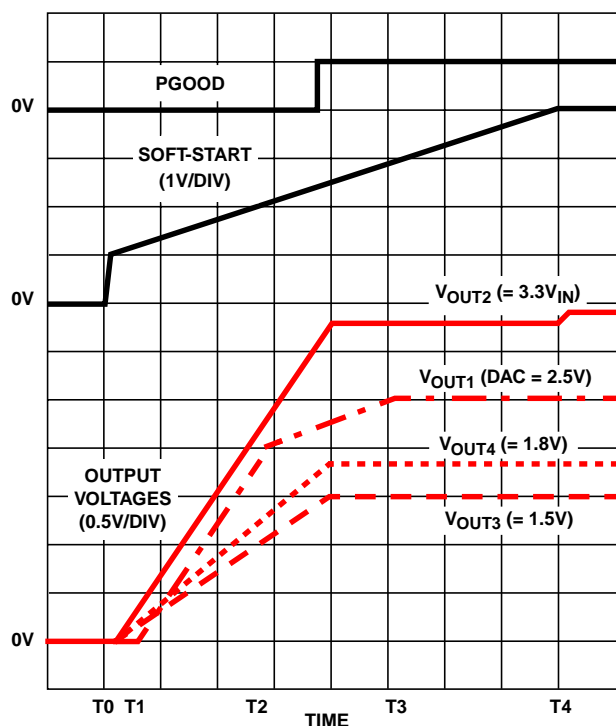
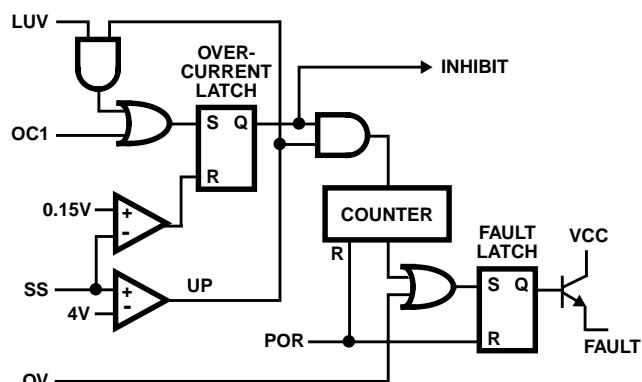

FIGURE 2. SOFT-START INTERVAL
FIGURE 3. FAULT LOGIC - SIMPLIFIED SCHEMATIC
Figure 2 shows the soft-start sequence for the typical application. At T_0 the SS voltage rapidly increases to approximately 1V. At T_1 , the SS pin and error amplifier output voltage reach the valley of the oscillator's triangle wave. The oscillator's triangular waveform is compared to the clamped error amplifier output voltage. As the SS pin voltage increases, the pulse width on the PHASE pin increases. The interval of increasing pulse width continues until each output reaches sufficient voltage to transfer control to the input reference clamp. If we consider the 2.5V core output (V_{OUT1}) in Figure 2, this time occurs at T_2 . During the interval between T_2 and T_3 , the error amplifier reference ramps to the final value and the converter regulates the output a voltage proportional to the SS pin voltage. At T_3 the input clamp voltage exceeds the reference voltage and the output voltage is in regulation.
Figure 3 shows a simplified schematic of the fault logic. An over-voltage detected on V_{SEN1} immediately sets the fault latch. A sequence of three over-current fault signals also sets the fault latch. The over-current latch is set dependent upon the states of the over-current (OC), linear under-voltage (LUV) and the soft-start signals. A window comparator monitors the SS pin and indicates when C_{SS} is fully charged to 4V (UP signal). An under-voltage on either linear output (V_{SEN2} , V_{SEN3} , or V_{SEN4}) is ignored until after the soft-start interval (T4 in Figure 2). This allows V_{OUT2} , V_{OUT3} , and V_{OUT4} to increase without fault at start-up. Cycling the bias input voltage (+12 V_{IN} on the VCC pin off then on) resets the counter and the fault latch.
Initially, the soft-start function clamps the error amplifier's output of the PWM converter. This generates PHASE pulses of increasing width that charge the output capacitor(s). After the output voltage increases to approximately 70% of the set value, the reference input of the error amplifier is clamped to a voltage proportional to the SS pin voltage. The resulting output voltages start-up as shown in Figure 2.